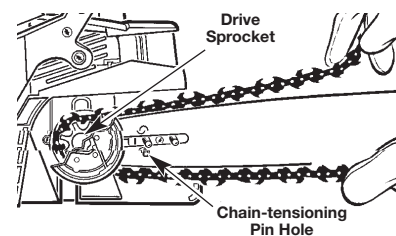

Fig. 38
**NOTE:** Make sure that the chain-tensioning pin is in the chain-tensioning pin hole (Fig. 38).